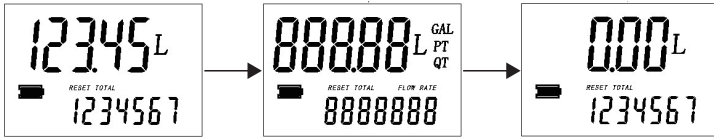

Fig. 2
• Reset the present total (See Fig. 2)